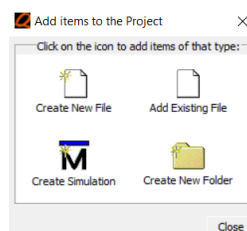

Fig. 2.4: Add items to the Project window.
3. A new window will open (Fig. 2.4) select *Add Existing File*.